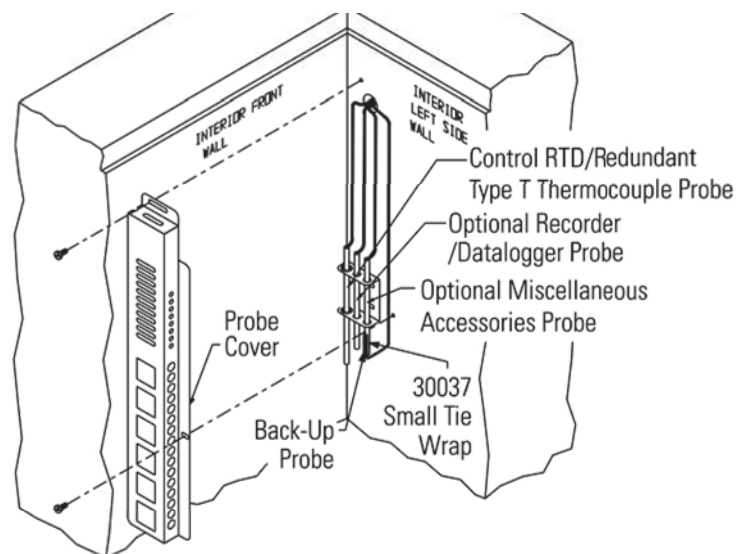

Figure 6-5. Probe location
- Open the freezer lid and locate the probe cover on the upper front left wall. Remove the two Phillips head screws securing the probe cover (see Figure 6-5).
- Route the BUS probe through the probe port, approximately 12". Secure the back-up probe to the temperature probe using a small tie wrap (Figure 6-5).
- Reinstall the probe cover (Figure 6-5).